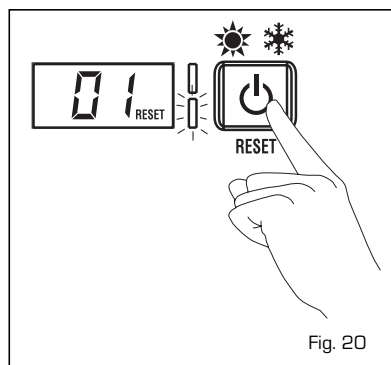

Fig. 20
- ANOMALÍA DESCARGA HUMOS "AL 01" (fig. 20)